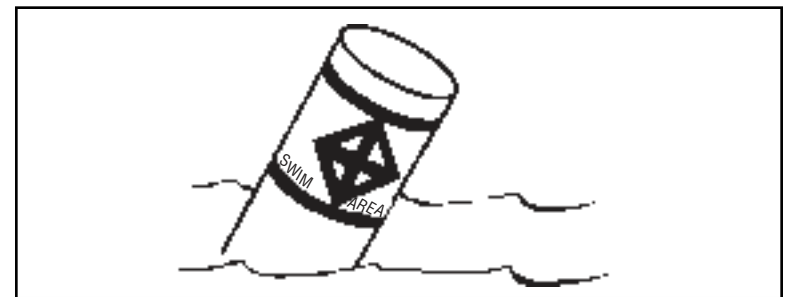

FIGURE 1.1 SWIM AREA BUOY
5. Swim only in areas designated as safe for swimming. These are usually marked with a swim area buoy (Figure 1.1). Do not swim alone or at night.